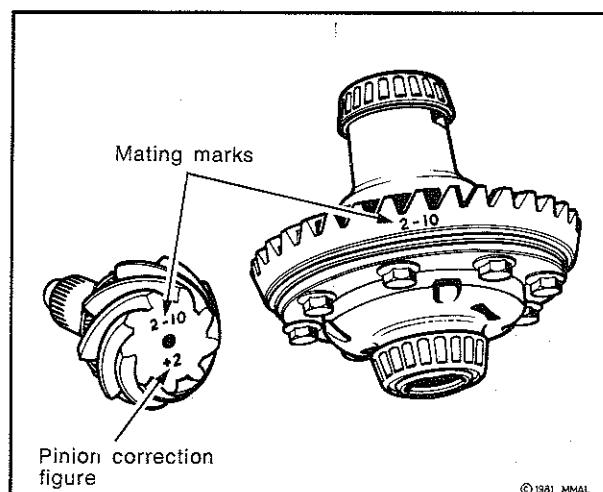

Fig. 30—Pinion and drive gear markings
(9) Note the pinion correction figure etched on the pinion head, refer Fig. 30. Add to, or subtract the etched figure from the previously measured dimension.